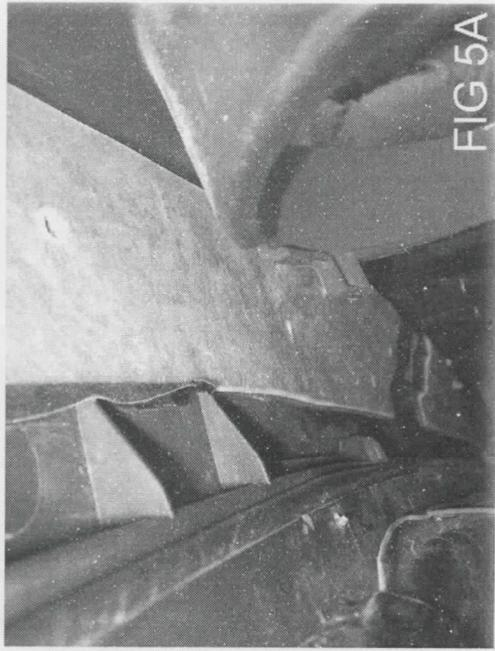

FIG 5A
11. AFTER COMPLETING STEPS ONE THRU TEN CAREFULLY PLACE REAR SPOILER ONTO BUMPER. USING TWO OF THE NUTS REMOVED IN STEP THREE REACH THRU THE TAILLIGHT OPENINGS AND REINSTALL NUTS ONTO STUDS. **FINGER TIGHT ONLY.** **NOTE:** MAKE SURE STUDS GO THRU RETAINER. USING THE TEN HIGH/LOW SCREWS REMOVED IN STEP FIVE, LOCATE THE HOLES IN RETAINER. INSERT SCREWS THRU THE RETAINER AND BUMPER AND INTO SPOILER. DO NOT TIGHTEN UNTIL ALL TEN SCREWS ARE STARTED. NOW TIGHTEN NUTS AND SCREWS EVENLY STARTING IN CENTER OF CAR AND WORKING OUTWARD. **(FIG.5A)**